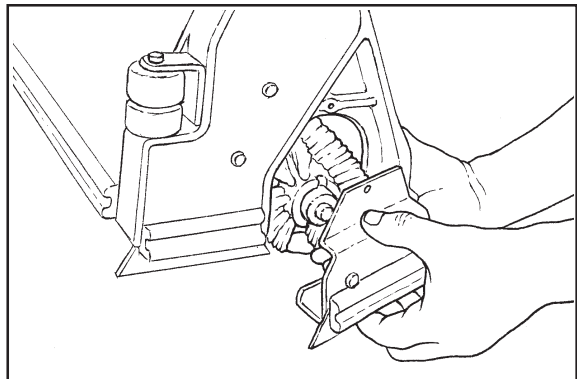

Figure 23
5. Lower door approximately 1/2 inch and slide door and bearing assembly off shaft (See Figure 23).